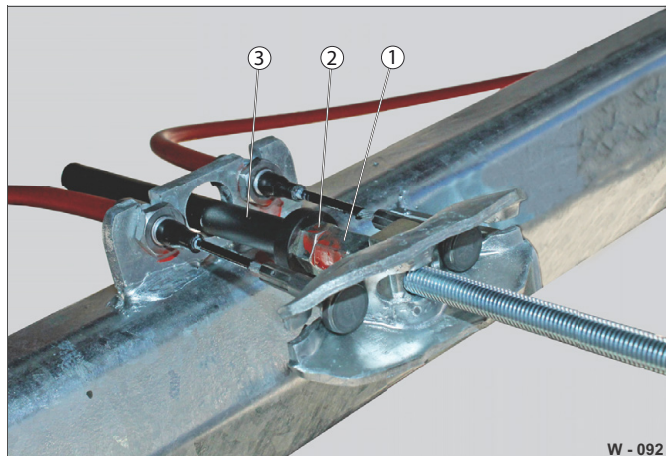

Fig. 64 Example: Brake compensation tensioned
- Connect the brake linkage on the compensation rod with a ball nut (Fig. 64 /2) - do not tighten.
- Lock the ball nut with the lock nut (Fig. 64 /1).
The brake linkage holder (Fig. 64 /3) prevents the brake activating unintentionally while driving.